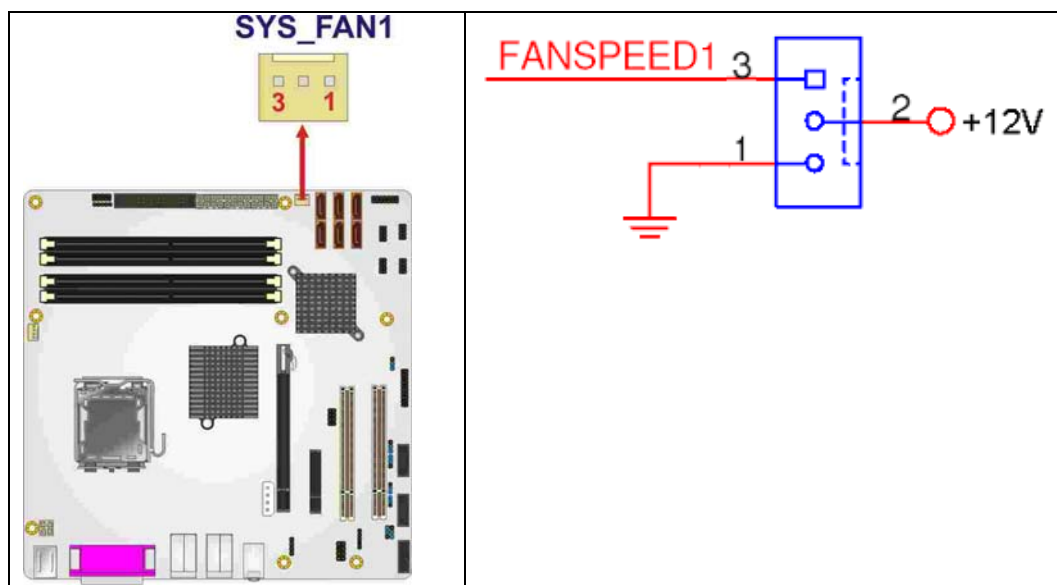

Figure 4-7: +12V Fan Connector Location
- CN Location:** See **Figure 4-7**